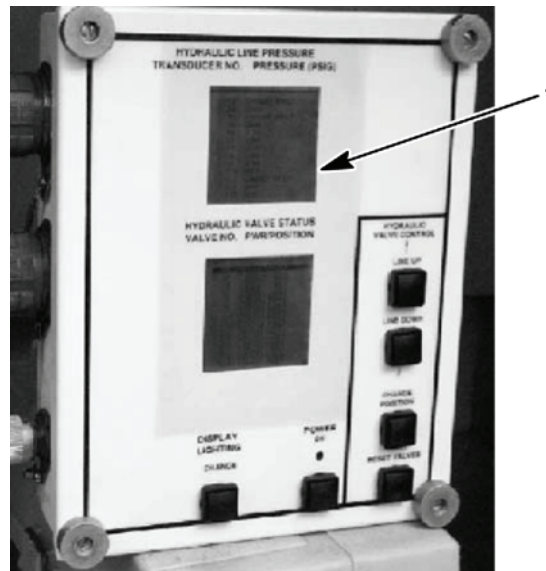

Figure 4. HDC Control Box
- To read 13R circuit pressure, read transducer T-3 hydraulic pressure on the HDC display (Figure 4, item 1).
- To read 13L circuit pressure, read transducer T-4 hydraulic pressure on the HDC display (Figure 4, item 1).